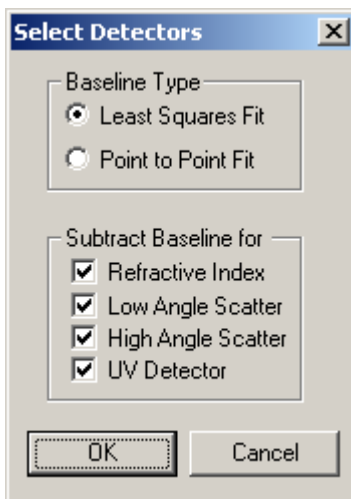

Figure 5-8: Select Detectors (Baseline Correction) Dialog Box
- a) Click on **Set Baseline** to present the *Select Detectors* dialog box (Figure 5-8)